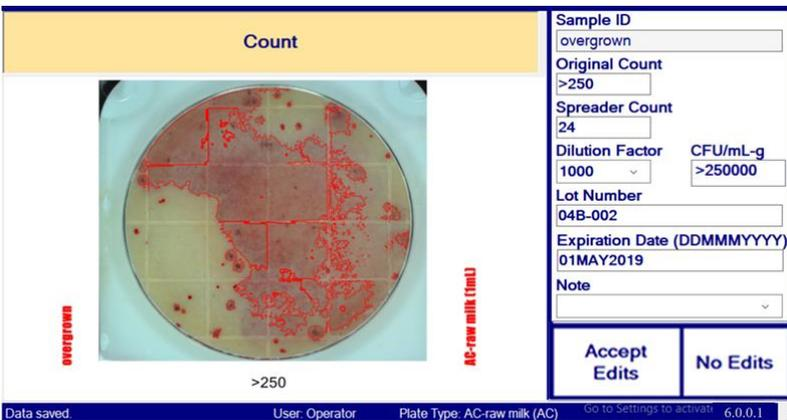

Figure 19
- The table shown in Figure 19 appears when manual edits is enabled, or a counted image is selected. Make any desired edits and click the **Accept Edits** button to finalize edits. In case of TNTC, >max count x dilution =CFU/mL-g.